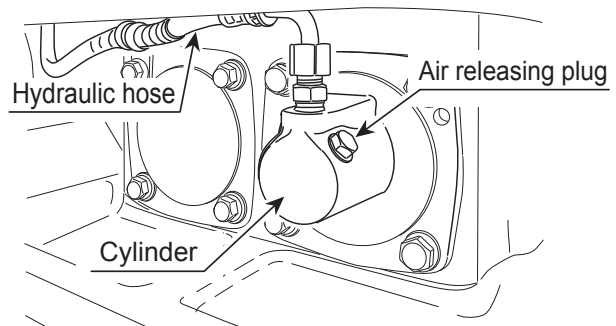

Figure 32. Removing Hydraulic Hose
3. Remove the hydraulic hose connected to the cylinder on the vibrator side (Figure 32).
- Remove the air releasing plug of vibrator cylinder. Oil will then come out from the air releasing plug. After air bubbles stop coming out, reattach the plug. Tighten securely (Figure 32).